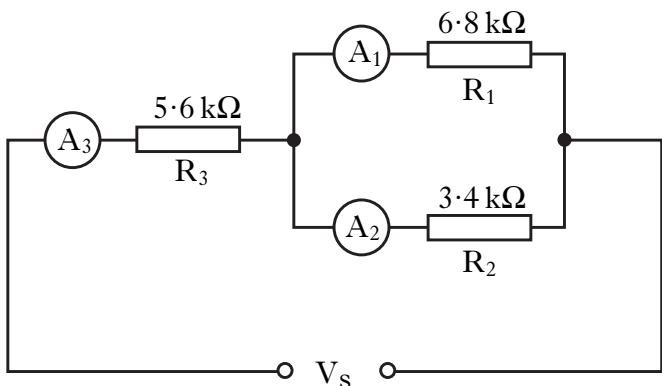

Figure Q5
5. An electrical circuit is shown in Figure Q5.